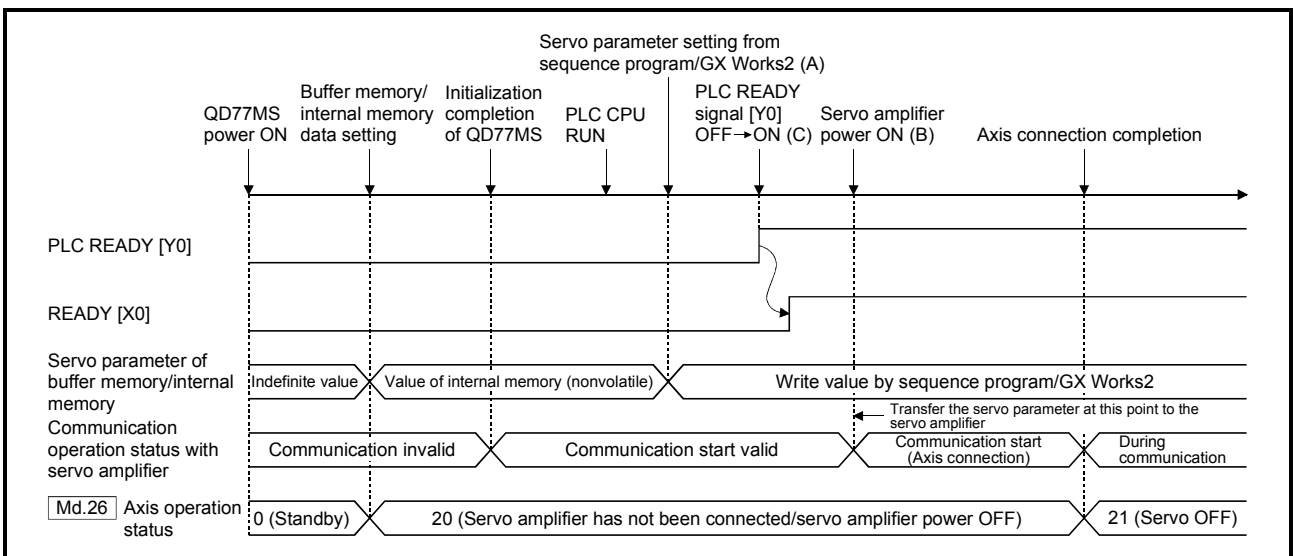

Fig. 7.3 When the servo amplifier had started after the PLC READY signal [Y0] is turned OFF to ON
(2) When the servo amplifier's power supply is turned ON after the PLC READY signal [Y0] is turned OFF to ON (Fig. 7.3 (C)).
Communication start timing to the servo amplifier: When the servo amplifier had started (Fig. 7.3 (B)).
: The data written from sequence program/GX Works2 before the PLC READY signal [Y0] ON (Fig. 7.3 (A)).